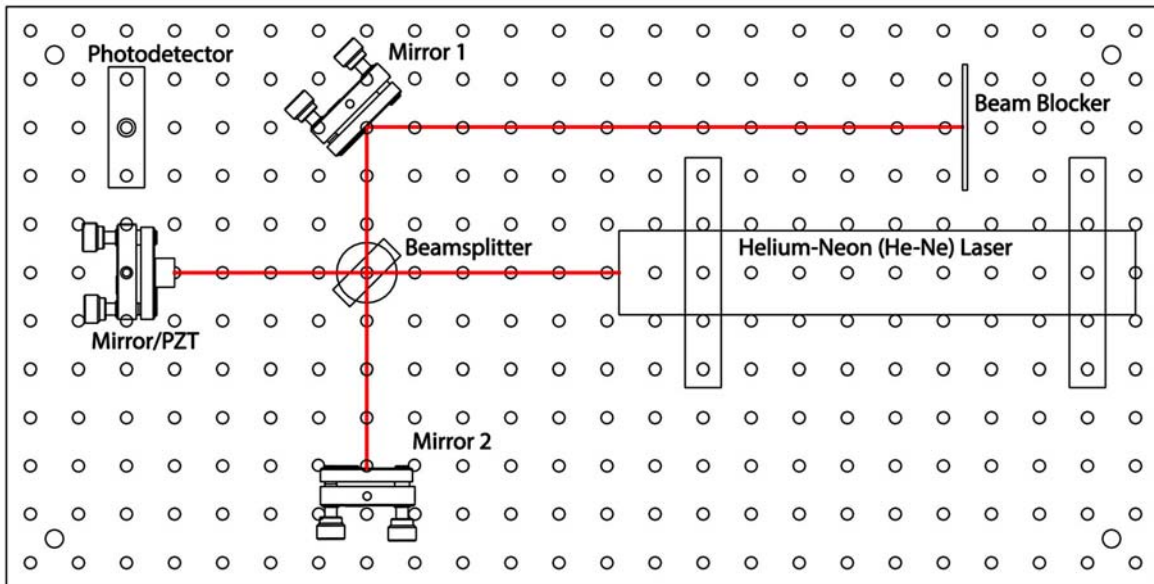

Figure 7. An initial set-up to examine various aspects of the interferometer optics. The beam blocker is a white card on a stand.
- With these rules in mind, you will next set up the optics as shown in Figure 7. One of the keys to working with optics is to place each element down carefully and methodically, so the alignment goes smoothly later. Begin by placing the beamsplitter 10 cm from the Mirror/PZT surface, as shown in the Figure. The holes are on a 1-inch (2.54 cm) grid, so four holes is about right. When placing the beamsplitter, you want to accomplish several things at once: 1) the beam should be close to the center of the beamsplitter; 2) the distance from the beamsplitter to the Mirror/PZT should be close to 10 cm; and 3) the reflection should be at a right angle (here again you can use the holes in the breadboard to guide you). If you place the beamsplitter with care, then you can accomplish all these things.
- Now move the Diverging Lens so it is between the Beamsplitter and Mirror 1 (see Figure 7). Now as you misalign Mirror 2 you see straight fringes, which is what you expect to see from the interference of two plane waves. If you misalign Mirror 2 quite a bit, you will see two separate beams, so far apart that they no longer interfere, and thus no more fringes. If the beams partially overlap, then you see fine fringes, but only between the beams where they overlap. It is a simple thing, laser interference, yet there is quite a lot to see as you move the beams around.